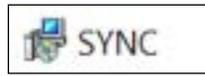

Figure 1: SYNC Installer
**Step 2:** Click the SYNC.msi file (**Figure 1**) and proceed through the setup (**Figure 2**) to launch SYNC for the first time.